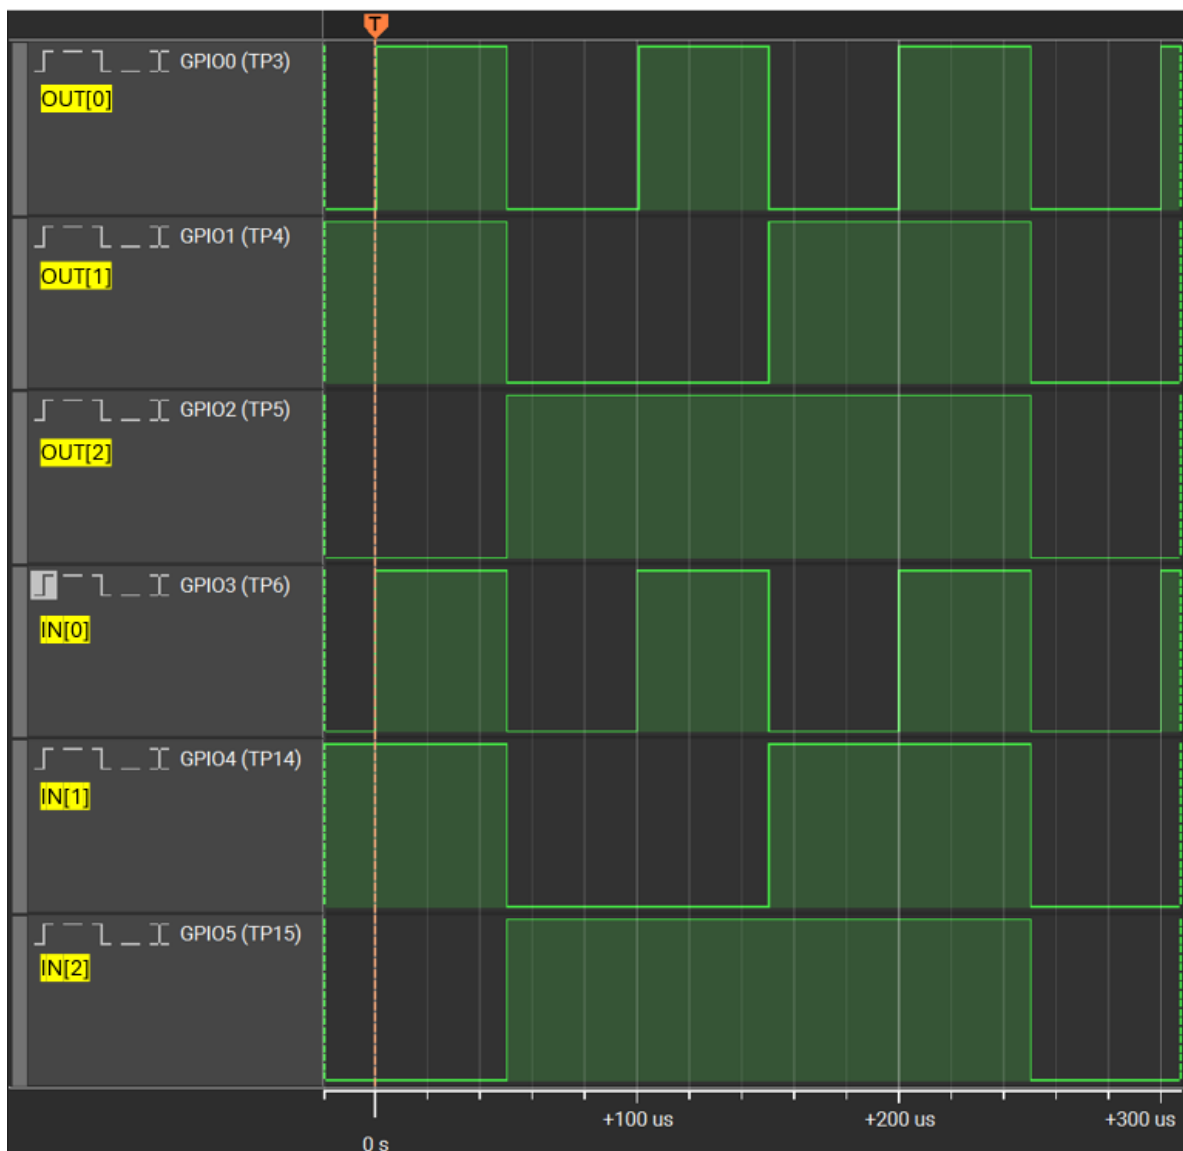

Figure 7. Results
11. Launch the Logic Analyzer from the top toolbar to view waveform outputs. Inside the Logic Analyzer. Use 50Mpsps as sample clock rate to monitor the waveform. Press Start button from of Logic Analyzer and Pattern Generator get the GPIOs you want to observe (See Figure 7)